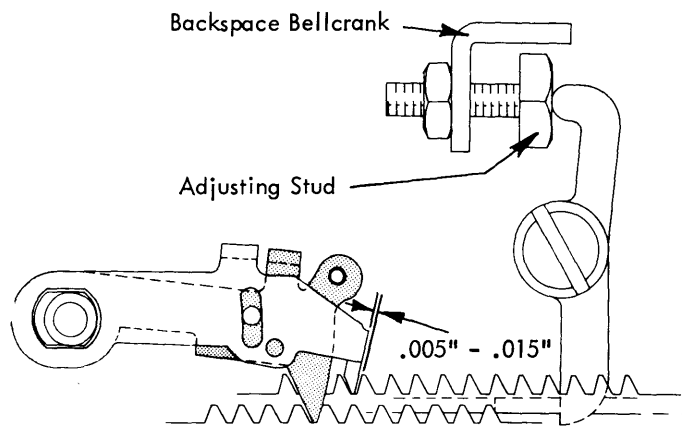

FIGURE 127. *Backspace Rack Adjustment*
3. **Backspace Rack** - With the backspace rack in the rest position, a clearance of .005" to .015" should exist between the working surfaces of the rack tooth and the backspace pawl (Fig. 127). Adjust the hexagon headed stud in the backspace bellcrank to obtain this condition.